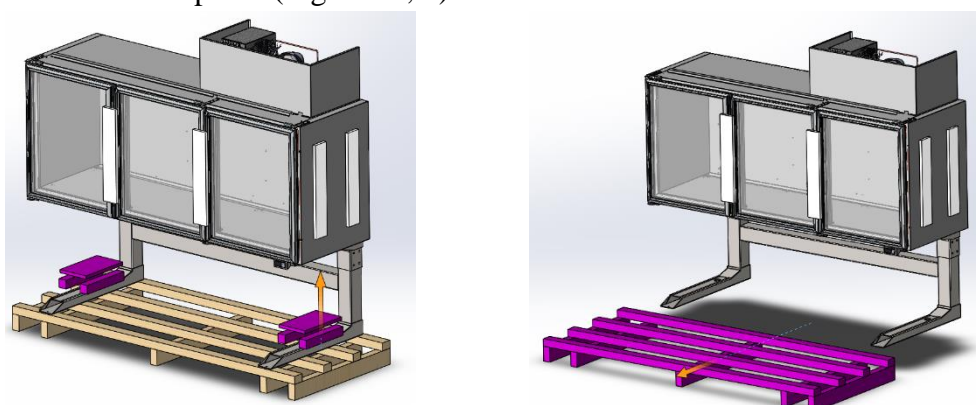

Fig. 6.1.3. a) location of fastening elements; b) pallet.
4. Dismantle the bars that fasten the showcase to the pallet (Fig. 6.1.3, a)
5. Remove the showcase from the pallet (Fig. 6.1.3, b)